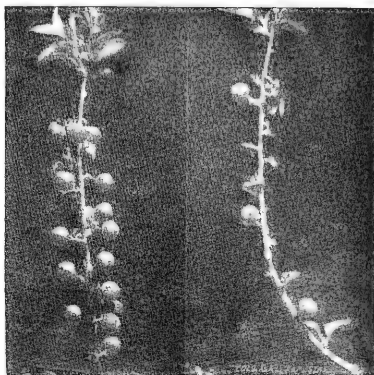

Fig. 114, Shows a Winesap branch three feet long before and after thinning. (Colorado Exp. Station.)
5. **Distance for apples.** Fig. 114.